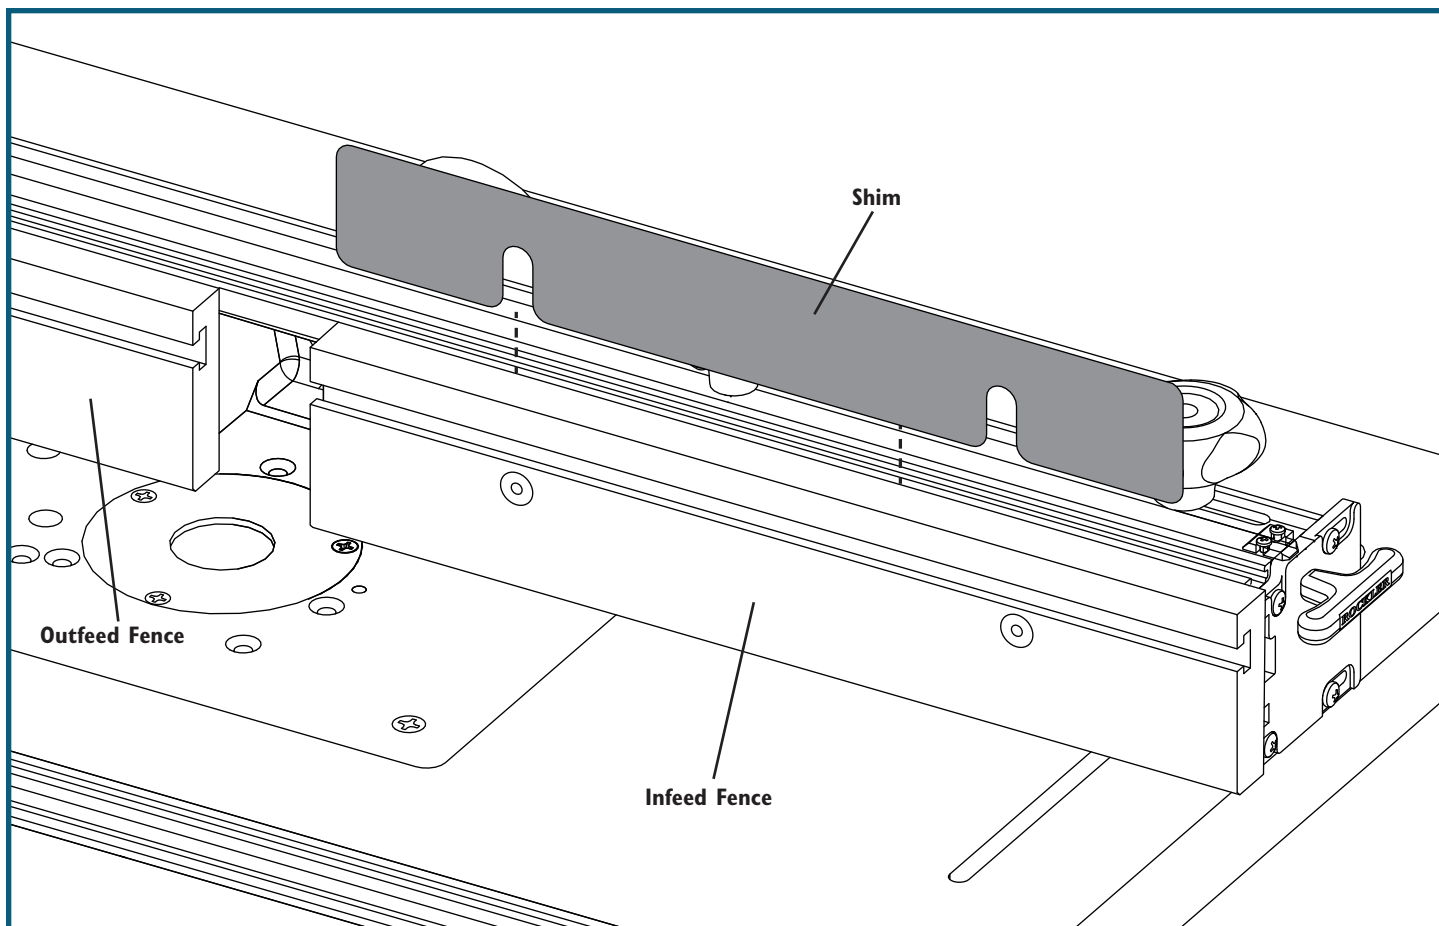

Fig. 4 - Bit guard removed for clarity
1. Tighten the Five-Star Knobs (9) to lock the Fence Body (1) to the router table, and use the Hex Key (12) to snug the MDF Adjustable Fence Faces (2) up to the fence. Also tighten the Fence Locking Knob (13).
3. If the board catches on the outfeed side, loosen the MDF Adjustable Fence Face (2) on the infed (right) side.
4. Gather the included Shims (15-17). Fit the Blue .008 Shim (15) between the aluminum Fence Body (1) and the MDF Adjustable Fence Face (2) on the infed side, taking care that the slots align with the bolts used to secure the Fence Face to the fence. **Fig. 4**. Make sure the Shim slides all the way down, and retighten the MDF Fence Face.